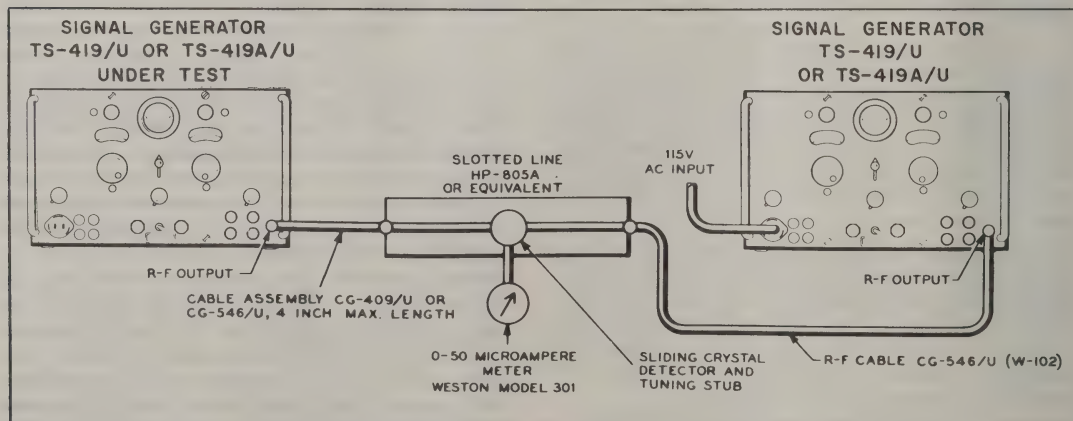

Figure 4-9. Test Connection Diagram for Measurement of Attenuator VSWR
(1) Connect the required test equipment as shown in figure 4-9.
(2) Set the OUTPUT ATTENUATOR of the TS-419 U to be tested at -10 dbm. The signal generator to be tested should *not* be turned on. The settings of the other controls are immaterial.
(3) Set the controls of Signal Generator TS-419 U used to supply the test signals as follows: